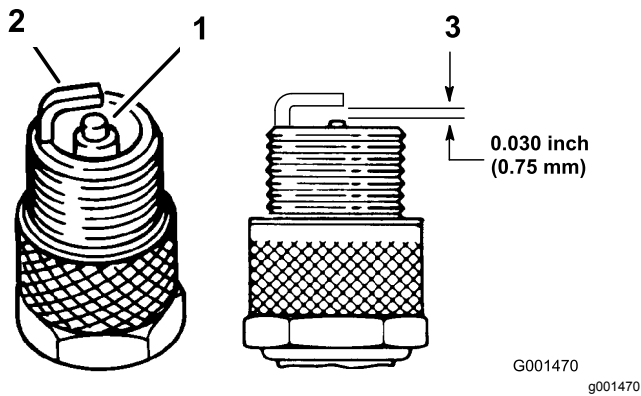

Figure 25
- Look at the center of the spark plugs (Figure 25). If you see light brown or gray on the insulator, the engine is operating properly. A black coating on the insulator usually means that the air cleaner is dirty.
2. Check the gap between the center and side electrodes (Figure 25). Bend the side electrode if the gap is not correct.